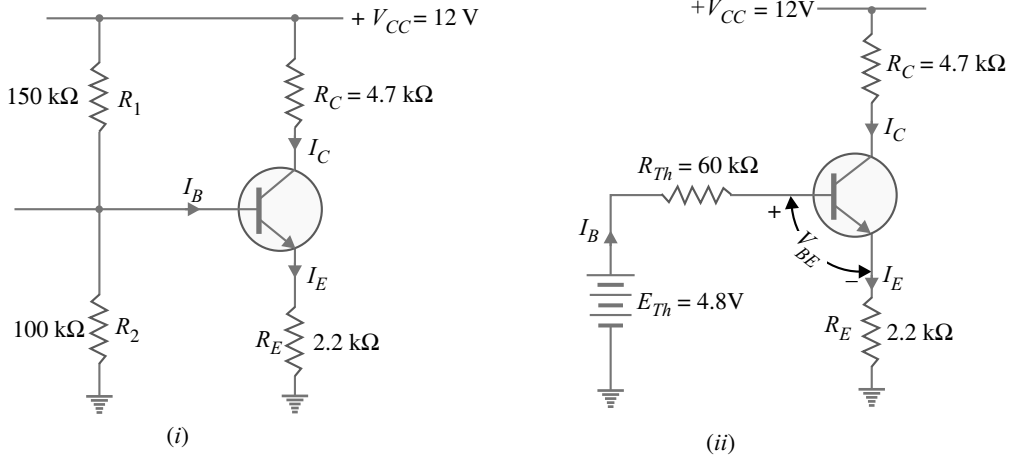

Fig. 7.33
**Example 7.28.** For the circuit shown in Fig. 7.33 (i), find the operating point. What is the stability factor of the circuit? Given that  $\beta = 50$  and  $V_{BE} = 0.7 \text{ V}$ .
**Solution.** Fig. 7.33 (i) shows the circuit of potential divider bias whereas Fig. 7.33 (ii) shows it with potential divider circuit replaced by Thevenin's equivalent circuit.